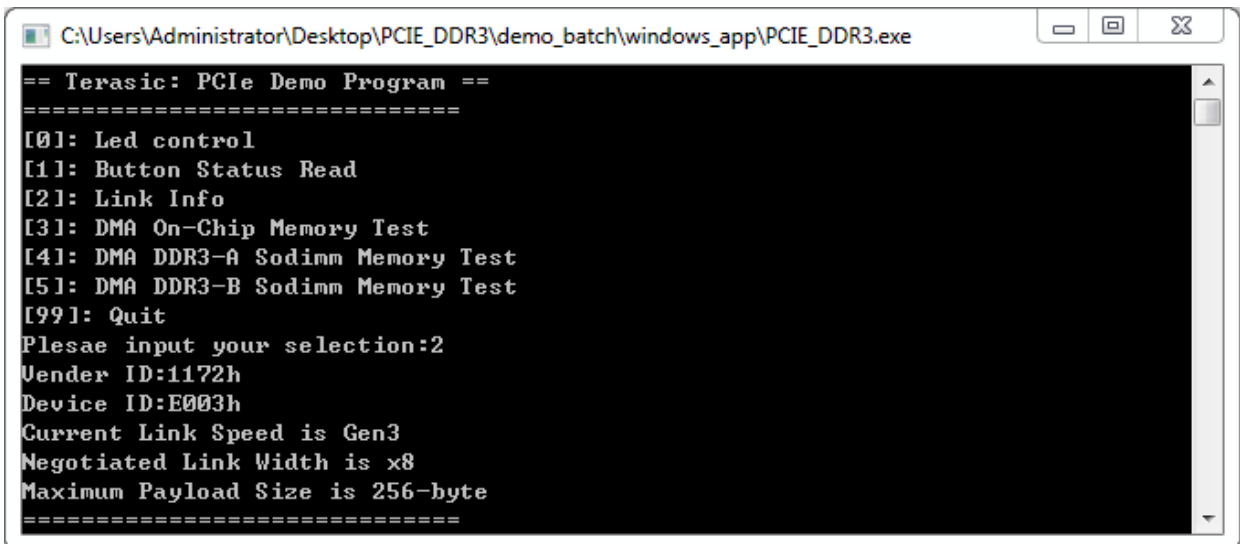

Figure 7-17 Screenshot of Link Info
8. Type 2 followed by the ENTER key to select Link Info item. The PICE link information will be shown as in **Figure 7-17**. Gen3 link speed and x8 link width are expected.